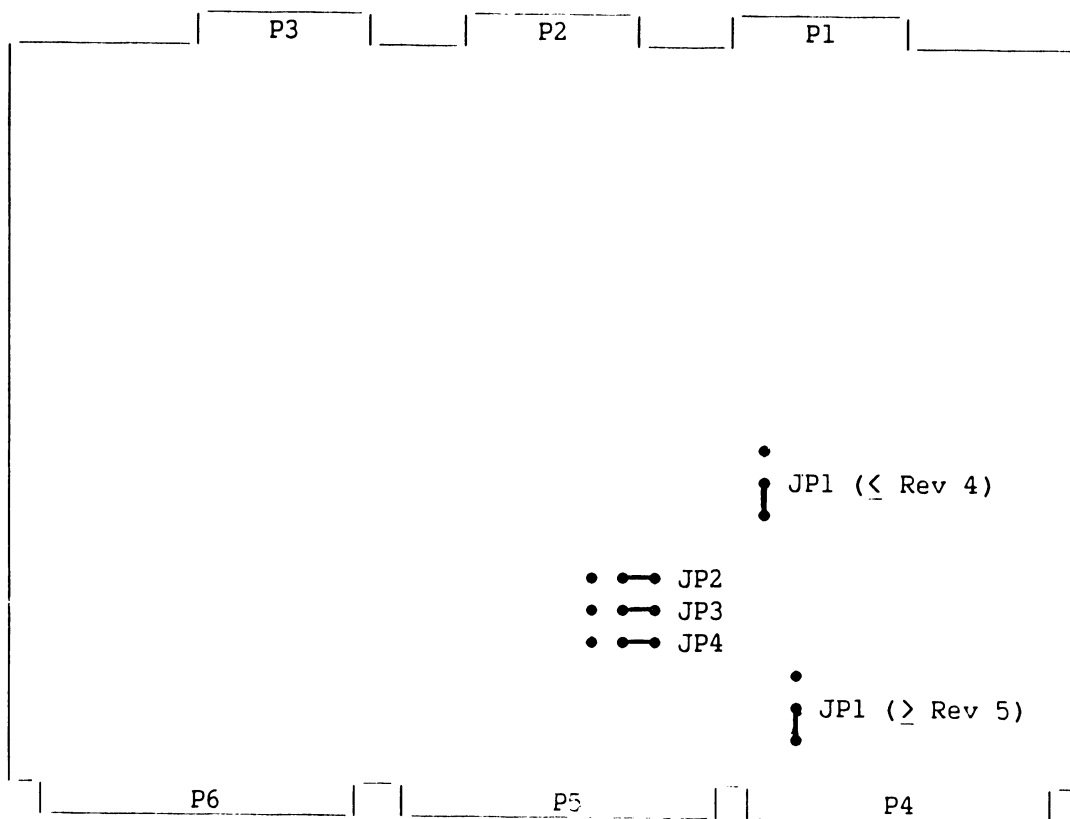

Figure 5-8. Main Memory Connector and Jumper Locations (1M Byte)
3. Check the memory size switch settings (table 5-1 and figure 5-6) and jumper positions (table 5-2 and figure 5-8) on the Main Memory board. Reinstall or replace the MMB by carefully inserting the PCB into the board guides and lower it to the Motherboard connector.